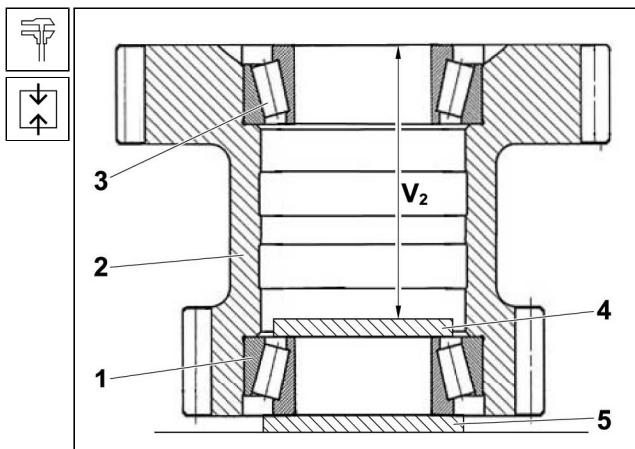

Fig. 4.72 Measurement of the bearing height - 3
56. Measure the thickness of "U" of the support plate 4 (end gauge) (See Fig. 4.72) using the micrometer or the caliper rule.